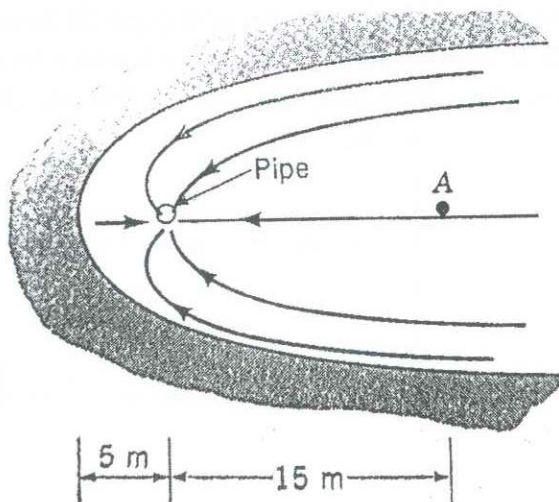

Figure Q3b
- (ii) One end of a pond has a shoreline that resembles a half-body as shown in Figure Q3b. A vertical porous pipe is located near the end of the pond so that water can be pumped out. When water is pumped at the rate of  $0.04 \text{ m}^3/\text{s}$  through a 3 m long pipe, what will be the velocity at point A?